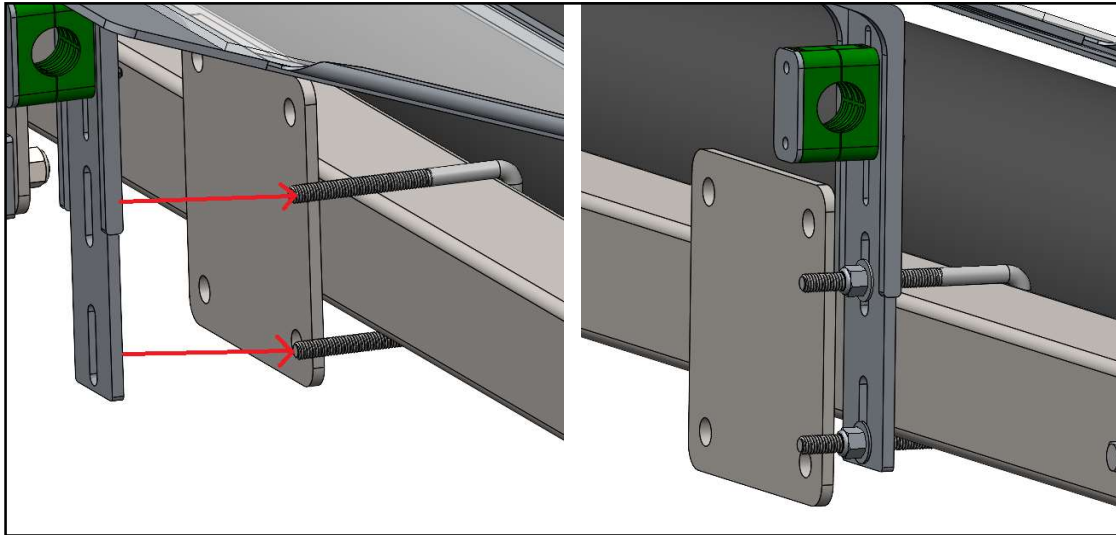

Figure 4: Mount method of hinge mount. Note the bottom two slots on the hinge mount are used in this step (see arrows).
6.) Using two people to support both ends of the shield assembly, slide the hinge mount onto the u-bolt placed in step 5 (see **Figure 4**.) The bottom two slots on the hinge mount will be used. The two legs of the u-bolt slide into the specified slots. To retain the position of the hinge mount and u-bolt, loosely install the two washers and lock nuts onto the threads. Continue supporting opposite end.